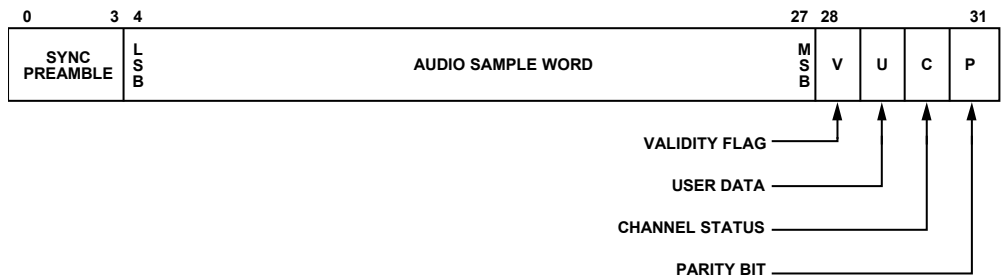

Figure 17. IEC60958 Subframe Timing Diagram
- A stream conforming to the IEC60958 specification when the part receives audio sample packets with L-PCM encoded data (refer to Figure 17).